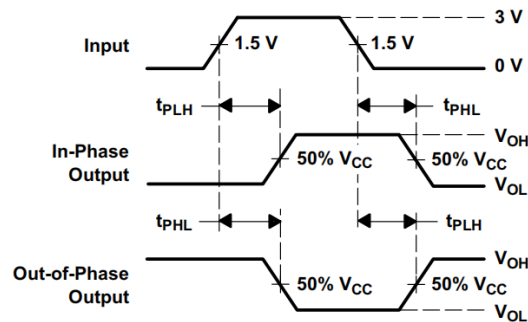
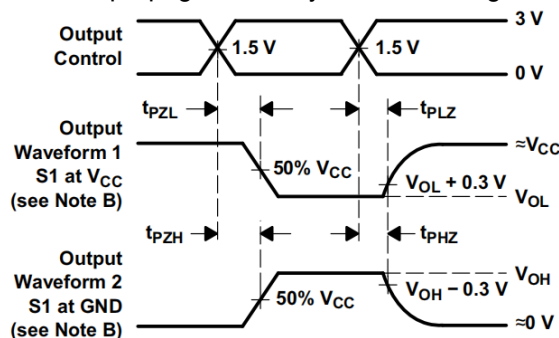

Figure 5. Voltage waveform propagation delay times inverting and noninverting outputs
Figure 6. Voltage waveforms enable and disable times low-and high-level enabling
**Note B:** Figure 5 is for an output with internal conditions such that the output is low except when disable by the output control. Figure 6 is for an output with internal conditions such that the output is high except when disable by the output control.